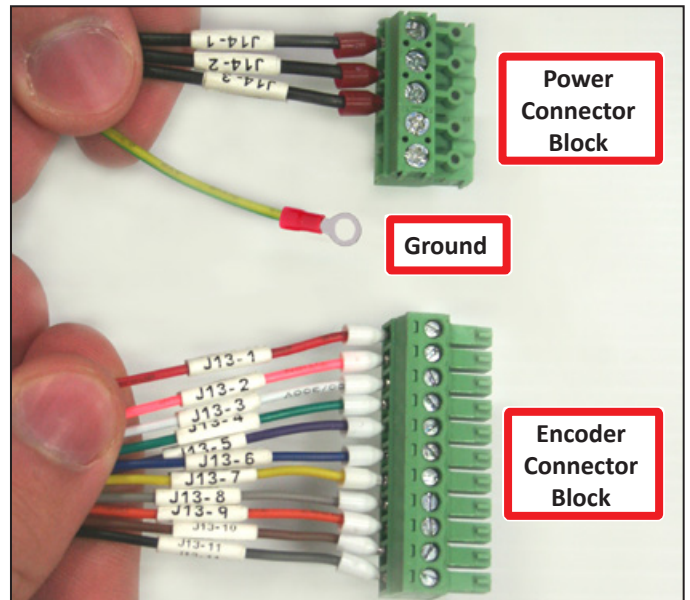

Figure 17
4. Locate and identify three harness end wire configurations (see **Figure 17**).
5. Make sure that the Encoder Connector Block wires are in sequential order (see **Figure 17**).